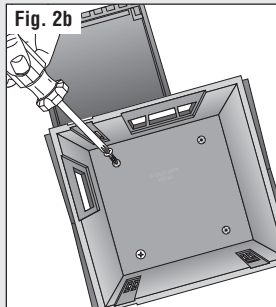

Fig. 2b
- Install Phillips Flat Head Screws 4x from the bottom (Fig. 2b).